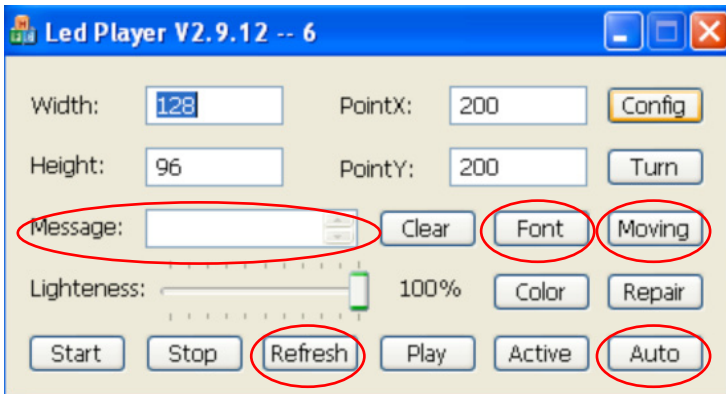
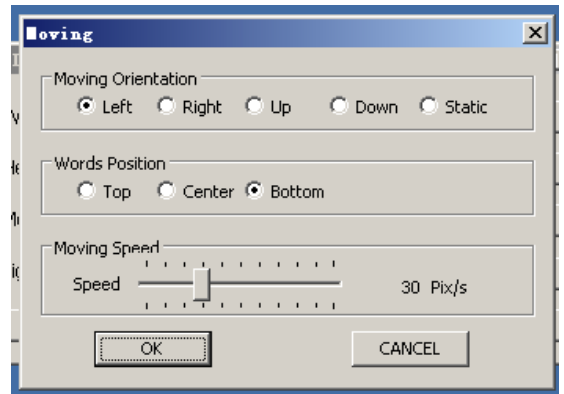
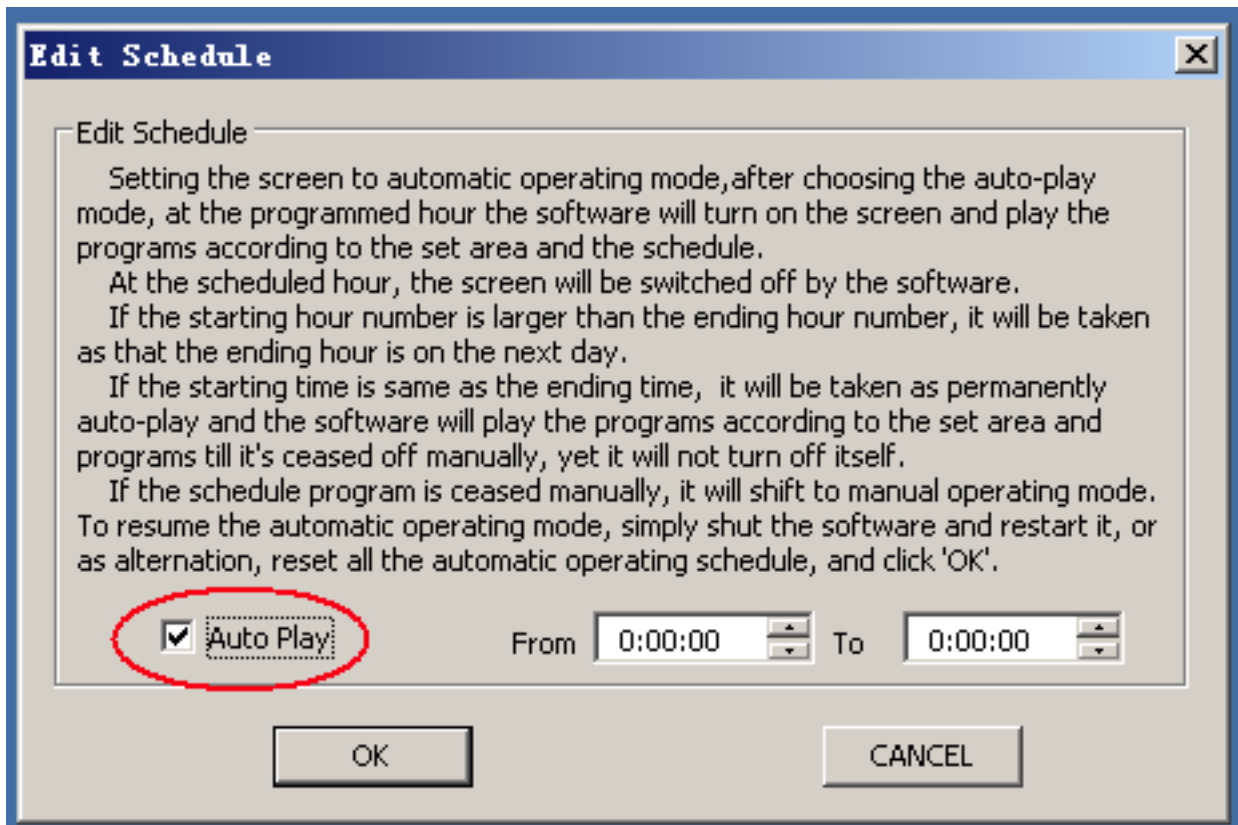

Fig 32.
Fig 33.
Fig 35.
To set up a message that will be shown on the screen, type the message in the “**Message**” text field or copy the text of the message to the text field. Then click the “**Refresh**” button (Fig 32.).
To set up the moving style of the message, click the “**Moving**” button on the control software’s main window (Fig 32.) and the “**Moving**” window will pop out (Fig 33.). On the “**Moving**” window, you can configure the following moving properties for the message:
- 3) The “**Moving Speed**”: This property indicates the speed of the moving message. The speed slider bar range is from 1 (pixel per second) to 100 (pixels per second). Adjust the speed by dragging the slider to a proper value (Fig 33.).
After setting up the moving style, click the “**OK**” button to apply the configuration or the “**CANCEL**” button to give up the configuration (Fig 33.).
To activate the auto-play function, click the “**Auto**” button on the control software’s main window (Fig 32.) and the “**Edit Schedule**” window will pop out (Fig 35.). On the “**Edit Schedule**” window, tick the box indicating the “**Auto Play**” and set up the start time and the finishing time. Then click the “**OK**” button. When the start time comes, the control software will automatically switch on the LED screen and load the last saved/played play list to play. Then when the finishing time comes, the control software will automatically switch off the screen. If the start time is later than the finishing time, this will mean that the finishing time is some time on the next day. If the start time equals the finishing time, then whenever the control software starts, it will switch on the screen and load the last saved/played play list to play, and the play list will be played permanently.
If you manually click the “**Stop**” button to stop playing during the auto-play mode, the control software will change the auto-play mode to the user-interactive mode. To restore the auto-play mode, close the control software’s main window and re-run the software again, or re-configure the auto-play mode on the “**Edit Schedule**” window (Fig 35.) and click the “**OK**” button.